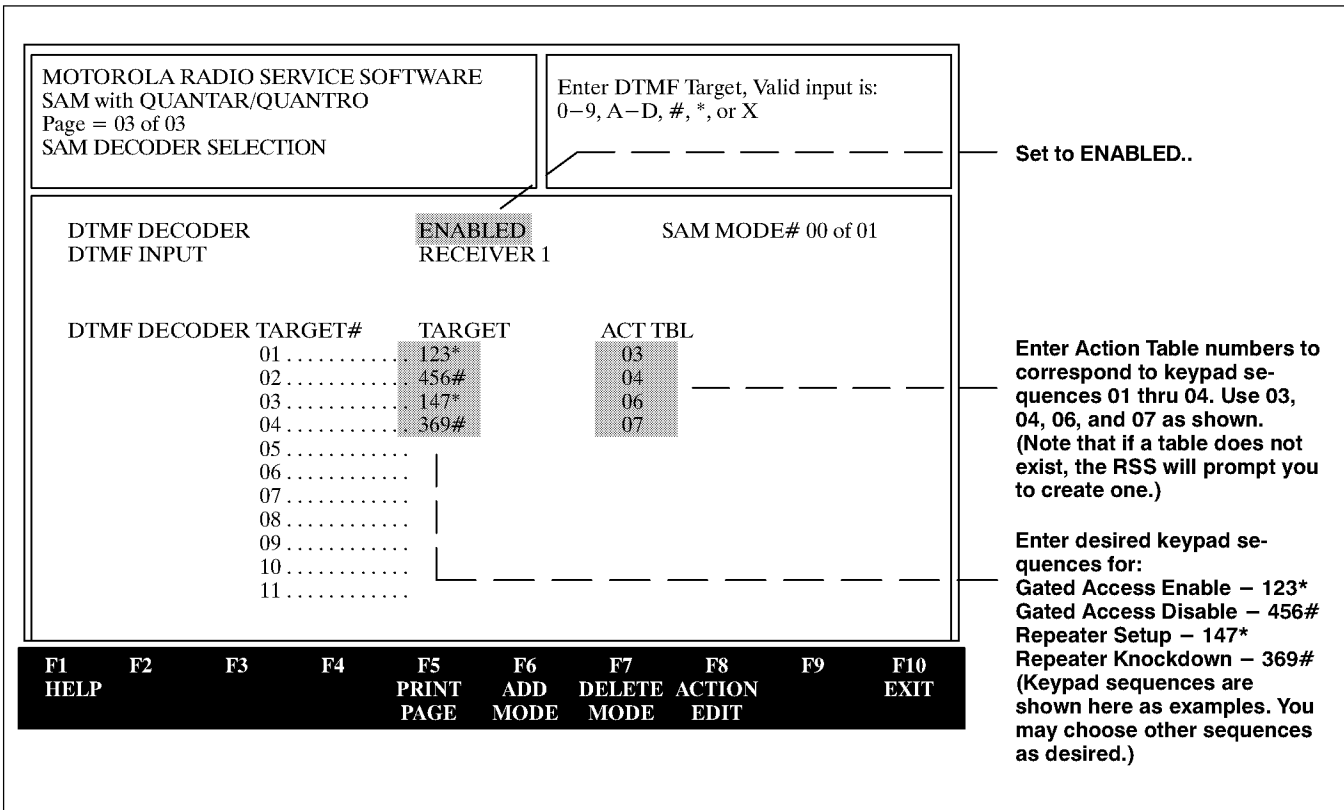

Figure 1. Making DTMF SAM Decoder Selection RSS Settings
- Step 2.** For **DTMF operation**, access *Page 03* of the *SAM Decoder Selection* screen and program the *TARGET* and *ACT TBL* settings as shown in Figure 1. These settings establish the keypad sequences and corresponding Action Tables for Repeater Setup, Repeater Knockdown, Gated Access Enable and Gated Access Disable. Note that if there is default data already entered when opening the screen, overwrite the data with the data shown below.